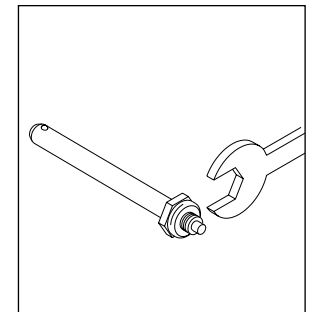

Figure 21
5. Rear Wheel Axle Adjustment (Fig. 21)